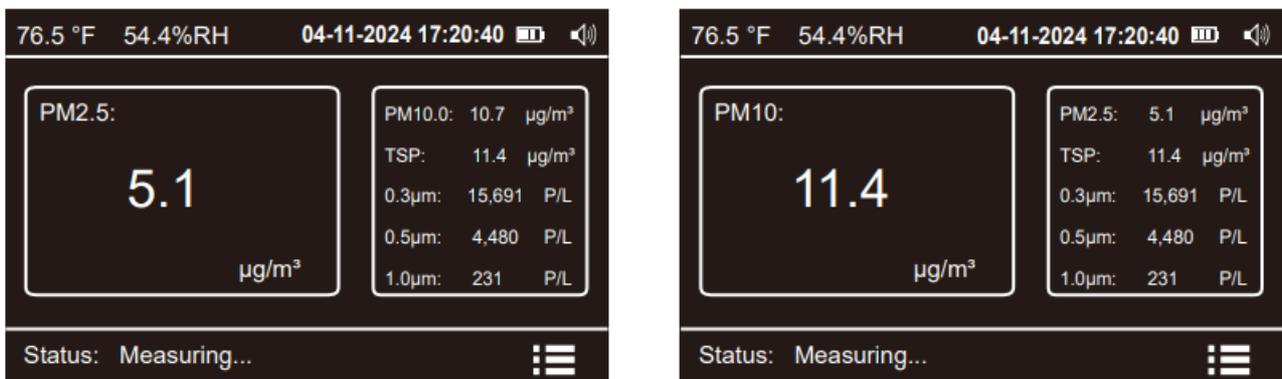

Fig.4
- The instrument default PM2.5 data is displayed in the main view box, press  or  to switch the measurement items displayed in the main view box (Fig.4).